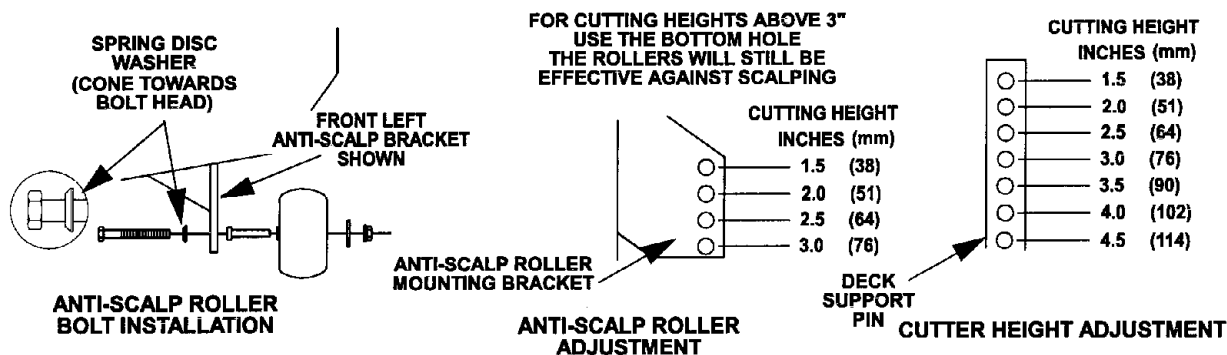

FIG 11
- a) Install hairpin clips in the holes shown on sketch below for the desired cutting height (See Figure 11).
- b) For maximum deck flotation, rollers should maintain 1/4 in. (6.4 mm) clearance to ground. **Do Not** adjust rollers to support the deck. Be sure roller bolts and nuts are installed with the spring disc washer between head of the bolt and mounting bracket (See Figure 11). **Torque to 40-45 ft-lbs., or loss of roller may result.**
- c) When operating in extremely rough conditions it may be necessary to position the anti-scalp rollers one or two holes higher than described in "b" to prevent damage to the rollers and/or bolt failure (See Figure 11).